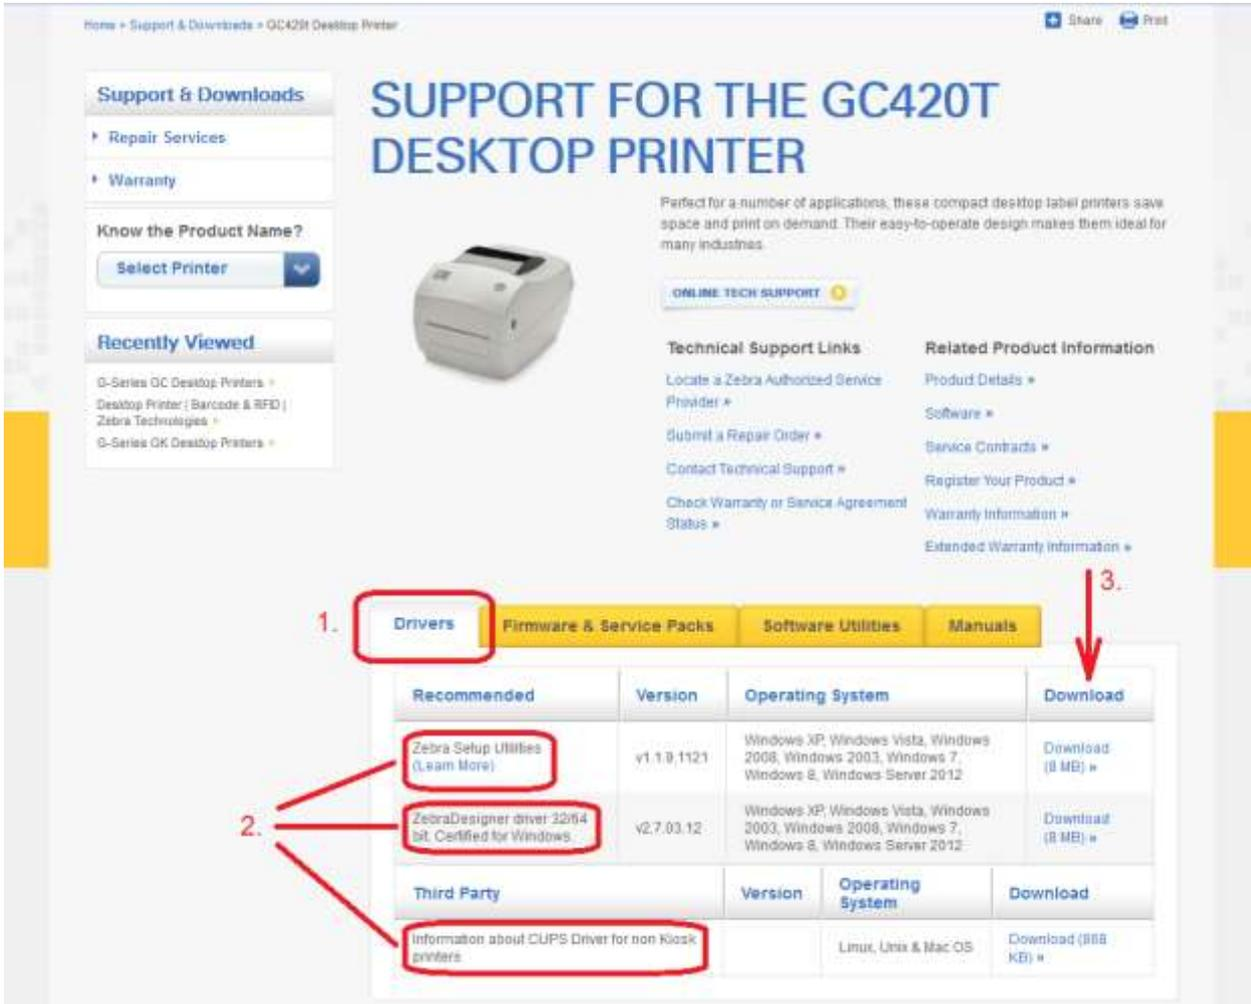

Figure 18: Selecting the right software and driver pack for the GC420t model
3. Click the **Download** tab to download the driver (see Figure 18).